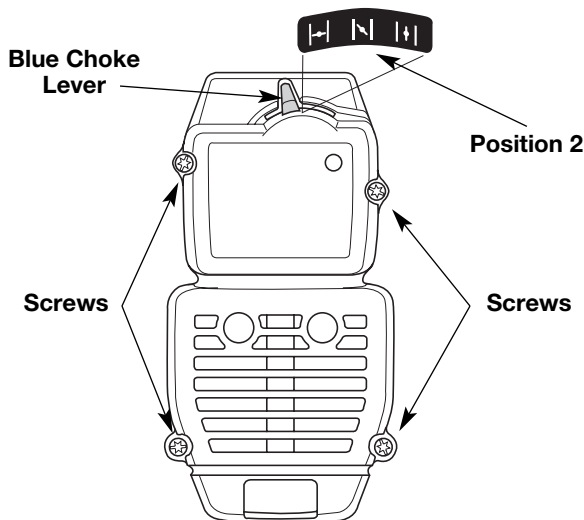

Fig. 21
1. Place the blue choke lever in Position 2 (Fig. 21).
2. Remove the four (4) screws securing the air filter/muffler cover (Fig. 21). Use a T-20 Torx bit screwdriver.
2. Insert the four (4) screws into the holes in the air filter/muffler cover (Fig. 21) and tighten. **Do not over tighten.**